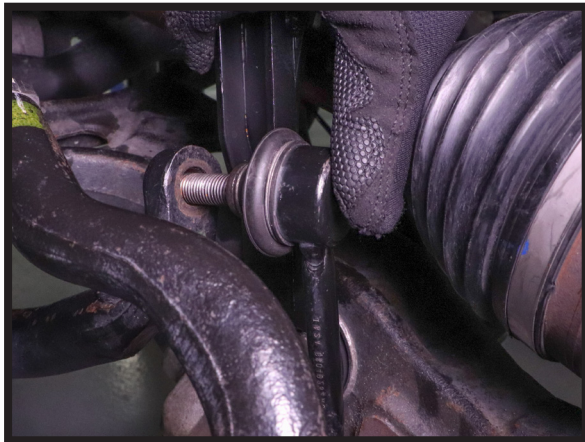

FIGURE 31
6. RECONNECT SWAY BAR END LINK AND TIGHTEN TO MANUFACTURER'S SPECIFICATIONS. (FIGURES 31, 32)